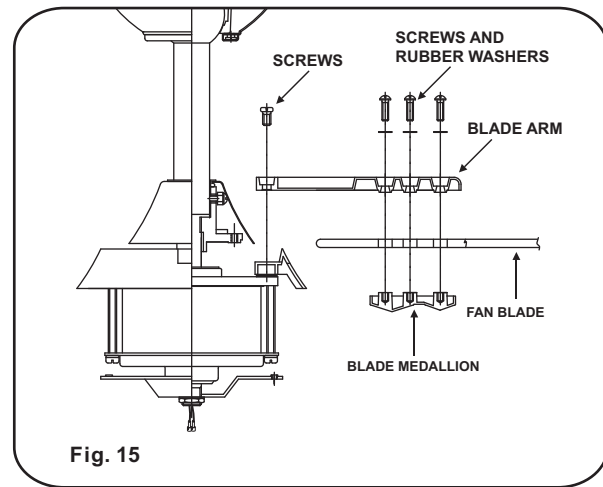

Fig. 15
Step 1. Attach the blade to the blade arm and blade medallions using the screws with rubber washers as shown in Figure 15. Start screw into blade arm. Repeat for the two remaining screws.
Step 3. Fasten blade assembly to motor using the screws supplied. (Fig. 15)